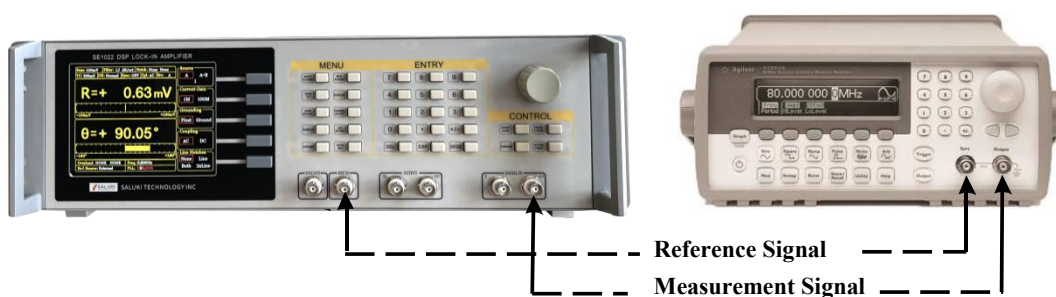

Fig.96 Signal Cable Connection Diagram
2. Use a BNC cable to connect the output of the function signal generator and the A/I input of the SE1022. Use another BNC cable to connect the reference signal of the function signal generator and the REF IN of the SE1022, as is shown in Fig.96.